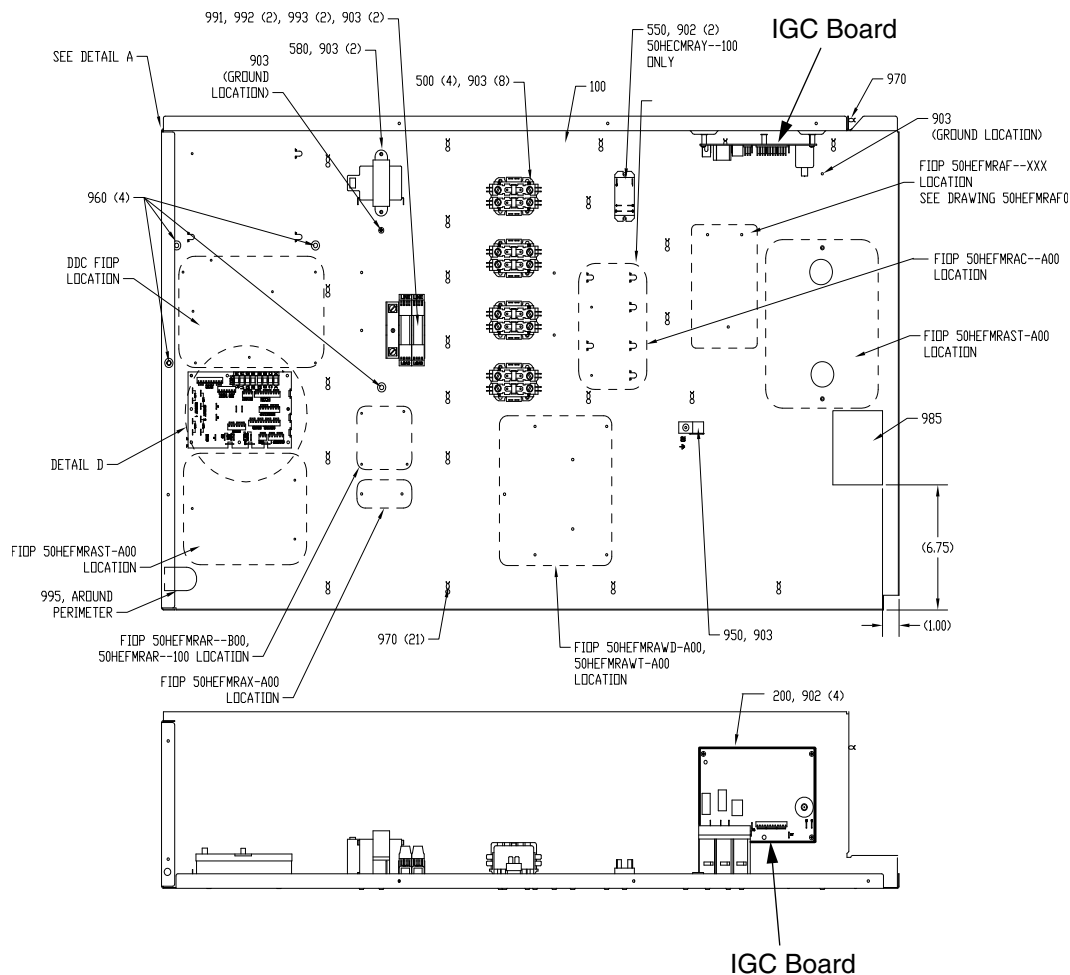

Fig. 53 — Unit Control Box/IGC Board Location
6. Remove the igniter wires and sensor wires at the Integrated Gas Unit Controller (IGC). See Fig. 53.
The unit is equipped with a direct spark ignition 100% lockout system. An Integrated Gas Unit Controller (IGC) is located in the control box. See Fig. 53. See Fig. 56 for IGC typical wiring diagram. The IGC contains a self-diagnostic LED (light-emitting diode). A single LED (see Fig. 57) on the IGC provides a visual display of operational or sequential problems when the power supply is uninterrupted. When a break in power occurs, the IGC will be reset, resulting in a loss of fault history, and the indoor (evaporator) fan ON/OFF times will be reset. The LED error code can be observed through the viewport. During servicing, refer to the label on the control box cover or Table 13 for an explanation of LED error code descriptions. See Table 15 for a list of the IGC Connections.